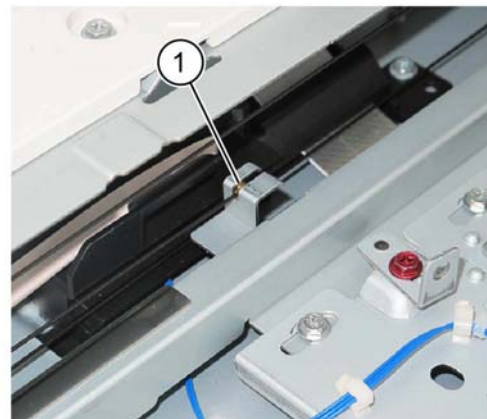

Figure 5 Cable removal
9. Remove the anchor ball (1) from the notch in the frame, then remove the carriage cable, **Figure 5**.